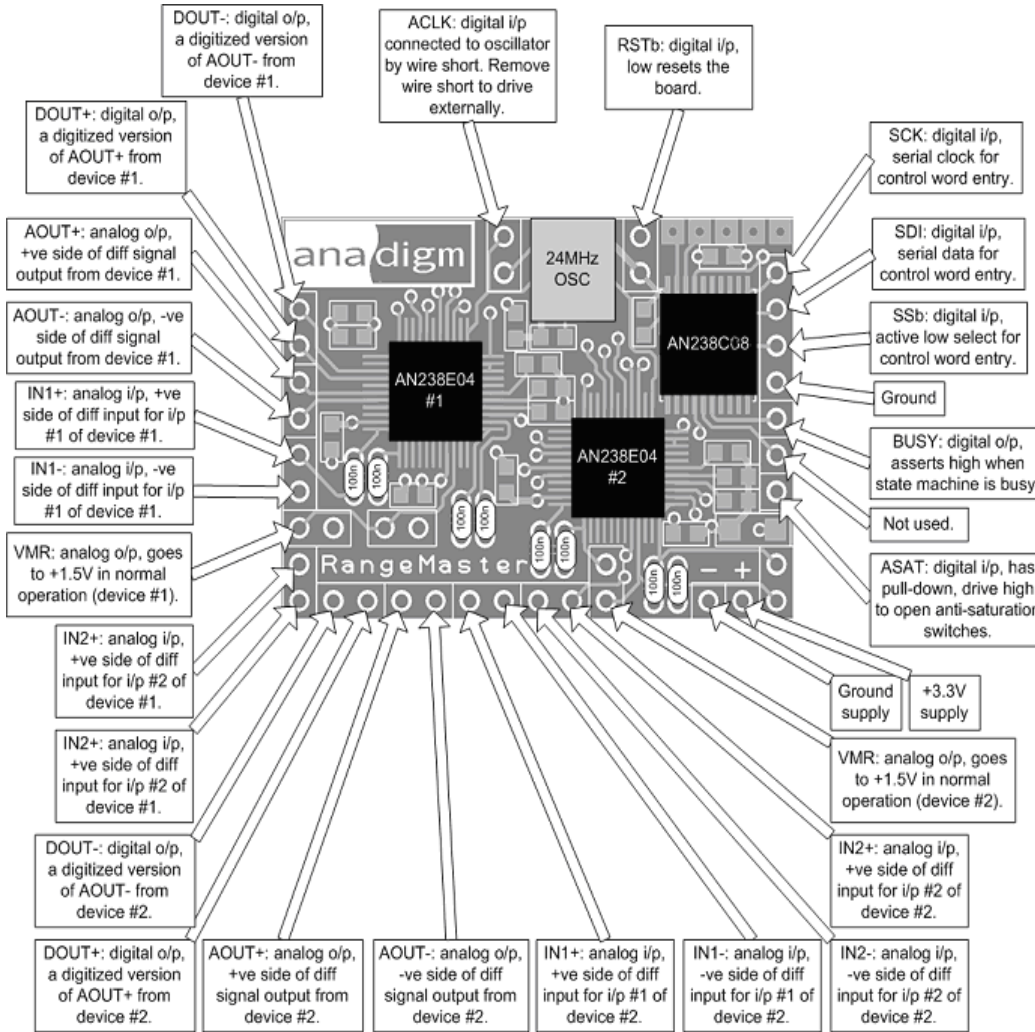

Figure 2. Pictorial Pin description
- If the input signal is single ended, connect it to IN1+ (or IN2+) and connect IN1- (or IN2-) to VMR by shorting the VMR hole to the hole above it (a jumper can be fitted if required). See figure2.